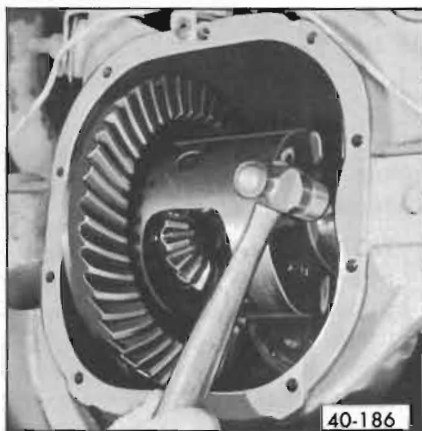

Figure 40-186—Installing Differential Adjusting Shims
2. Place differential case and bearing assembly in position in carrier. If old side bearings were installed, use original adjusting shims; if new bearings are to be used, select new right and left adjusting shims each .002" thicker than original shims. Slip left shims in position at left bearing with steel shim next to bearing, then place .140" shim for right side in position and drive steel shim carefully into position between bearing and cast shim using a soft hammer. See Figure 40-186.